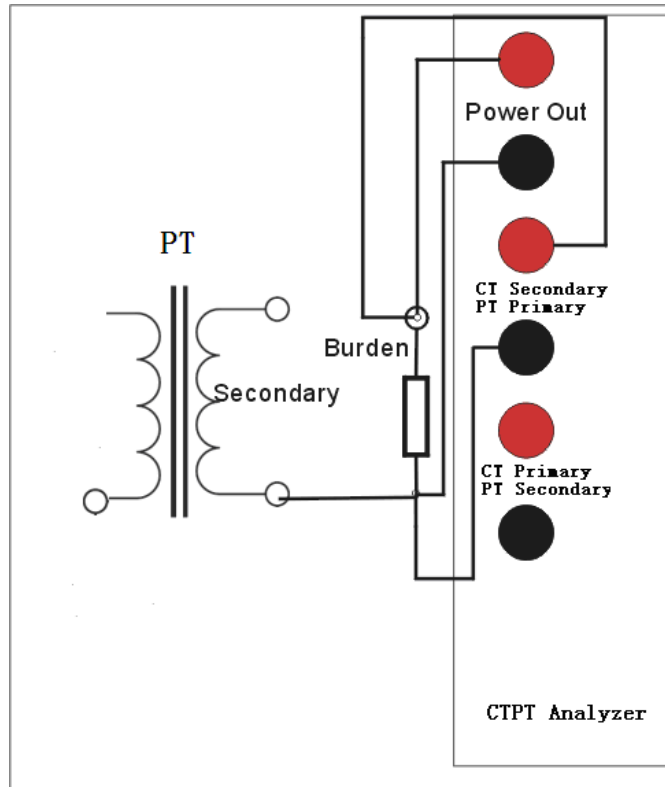

Figure 3.6 PT secondary burden test connection
Please connect Analyzer and sample PT as figure 3.6 in PT secondary burden test.
- 2) Disconnect sample PT secondary winding with secondary loop as figure 3.6.